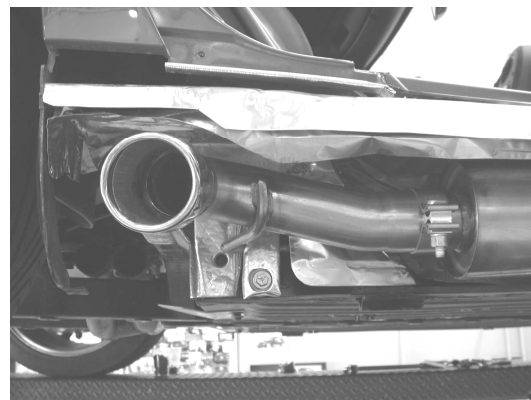

Figure 9
2. Place a clamp over the expanded end of each turnout assembly and set them into position sliding over the outlet of each muffler assembly. Install the hanger located on the turnout assembly into the rubber bracket as shown in figure 9. **DO NOT** tighten the clamps.